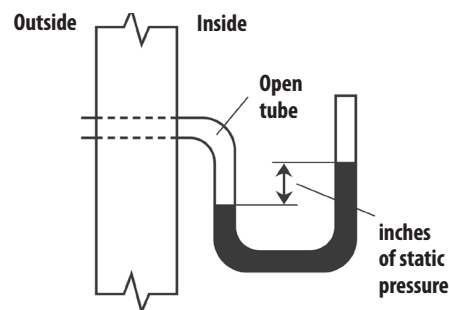

Figure 1. Static pressure as measured with a manometer.
**Static pressure:** Static pressure is the difference in pressure that a ventilation fan creates between the inside and outside of a mechanically ventilated structure. Static pressure may be measured using a manometer (Figure 1). Fans are used to create a vacuum within a building by exhausting air. The indoor environment, having a lower pressure than outdoors, will draw air in through inlets (Figure 2). This is called a negative pressure